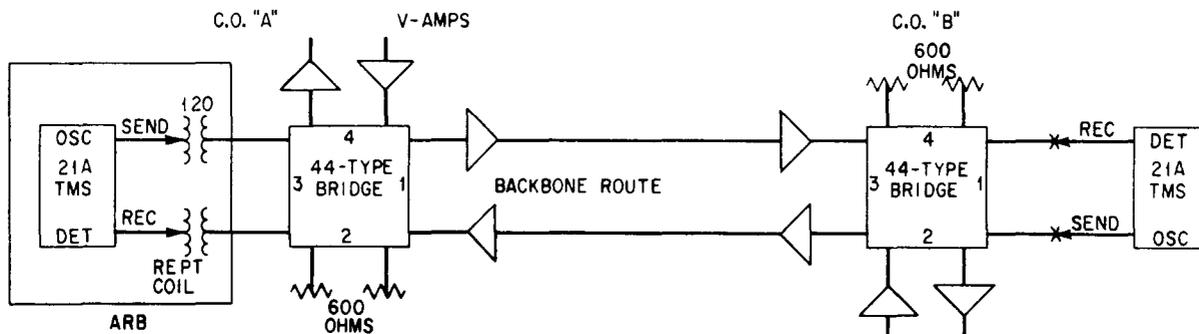

Fig. 2 — Testing Arrangement for Response of Backbone Route
ARB headquarters. If the route is split, measurements should also be made from the most remote central office on the branch. Measurements should be made in accordance with Fig. 2 which is a typical testing arrangement. ***ALL BRIDGING CIRCUITS AND LOOPS SHOULD BE CONNECTED NORMAL BEFORE MAKING THE TEST.***
**5.02** Chart I outlines the procedure for making frequency response measurements on the backbone route. While Fig. 2 shows a 21A TMS, other sets recommended in Part 2 may also be used. This means that the procedure set forth in Chart I may have to be revised slightly depending on the test sets used.